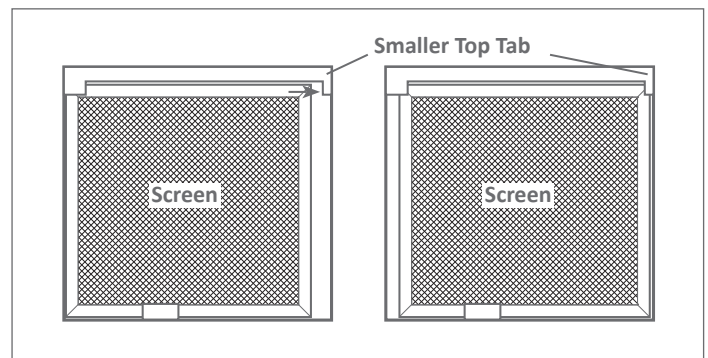

Figure 11 - Securing the insect screen in place
3. Then slide the screen in the opposite direction and tuck it behind the smaller tab (Figure 11).
4. Confirm that the screen is being held in place by both top tabs (Figure 11).